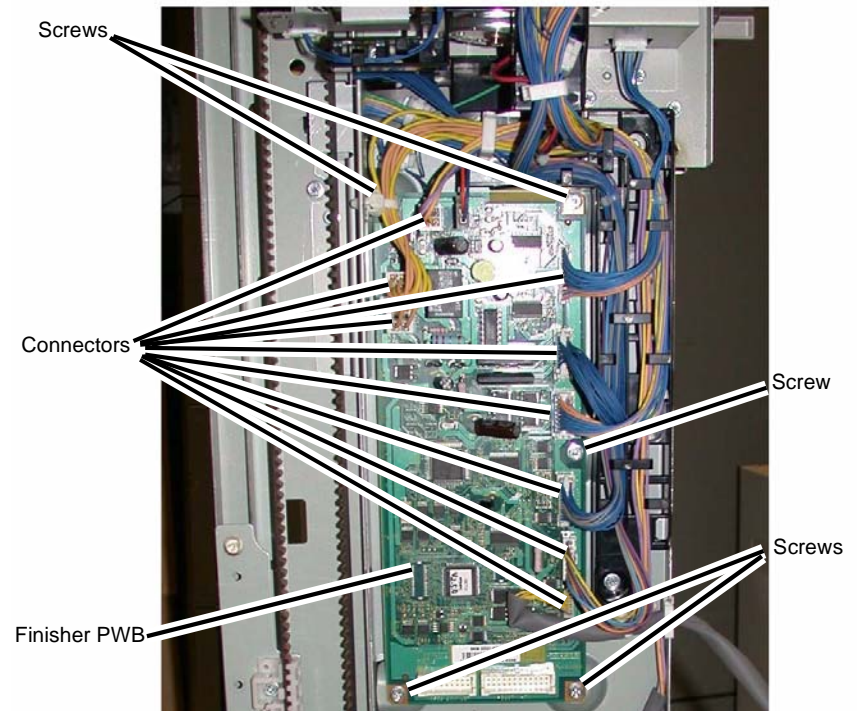

Figure 1 Removing the Finisher PWB
4. Remove the Finisher PWB (Figure 1).
- a. Disconnect the Connectors (9).
- b. Remove the Screws (5).